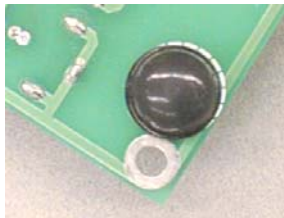

Figure 1-25
- √ Remove each rubber foot from the adhesive strip and affix it to the underside of your board as shown in Figure 1-25. If you are using the Board of Education, it has circles on its underside that show where each rubber foot should be attached. For the HomeWork Board, just place a rubber foot next to each plated hole at each corner.